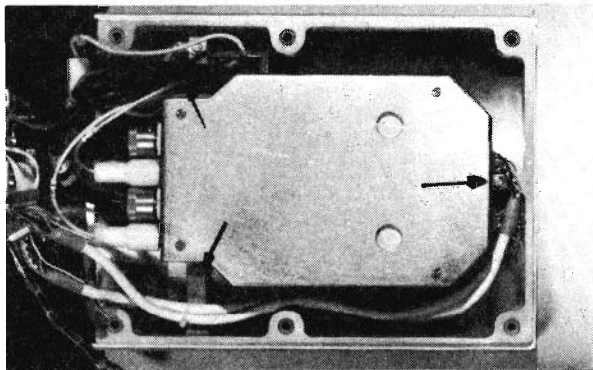

Fig.3 , II-generator mounted in the side box with 3 screws.
- (1) execute paragraph 3.1.
- (2) disconnect BGC1: X6, X7, X8 and X9 from the HT-unit
- (3) remove the HT-unit (3 screws) from the shield see Fig.3 page 26
- (4) disconnect BGC1: X2 and X3, connect the cables X2 and X3 to the new HT-unit
- (5) mount the HT-unit to the shield (3 screws)
- (6) connect BGC1: X6, X7, X8 and X9
- (7) execute para. 3.5.
- (15) turn the adjustment screws (3) until you feel a resistance and lock them with the bolt
- (16) mount the ring with implosion plate; the finishing ring and finally the grid to the shield
- (17) mount the basic lens carefully to the II-tube (3 screws)
- (18) connect BGC1: X6, X7, X8 and X9 to the HT-unit and the earth lead to BA1, see Fig.3 page 26
- (19) execute para. 3.5.